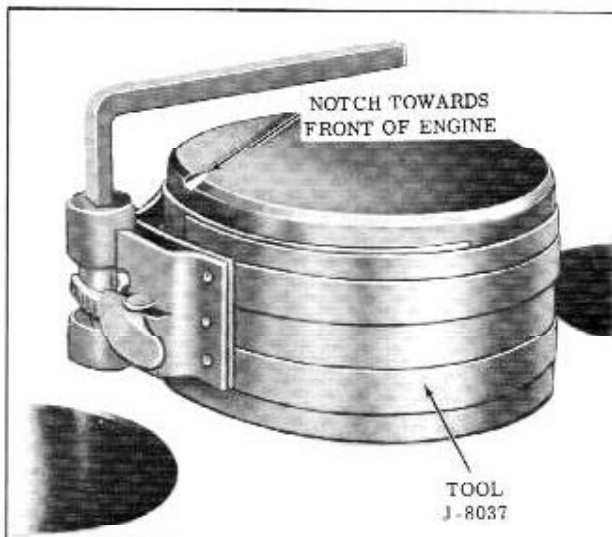

Fig. 8-28 Piston Ring Compressor
2. Apply S.A.E. No. 20 oil to rings and piston, then install piston ring compressing tool on piston. (Fig. 8-28)